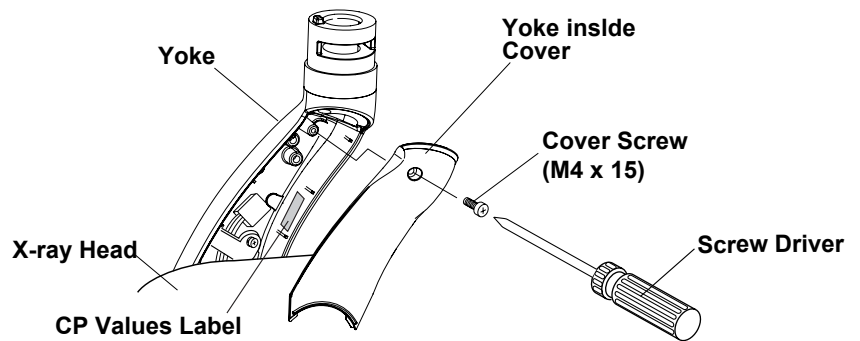

Fig.3-20 Removing Yoke Inside Cover
2. Open the yoke inside cover of x-ray head by removing (M4 x15mm) countersunk screw (Fig.3-20)
8. Reattach the yoke inside cover with the screw (M3 x 8mm). Before closing the cover, note the CP values on the CP values label inside of the yoke. (**Fig.3-20**)